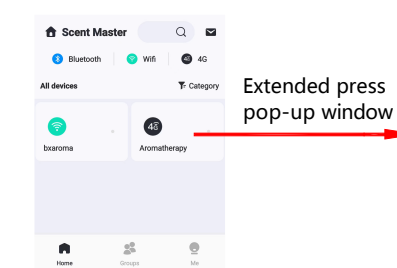

Figure 17
- (1). Open [online Mode] interface and extended press the device name to pop up, Sticky on top / Rename / Program device working mode / share device/delete, click [Delete] finish the operation (Figure 17 / 18).
- ① [online Mode] interface and click the device to be removed (Figure 17).